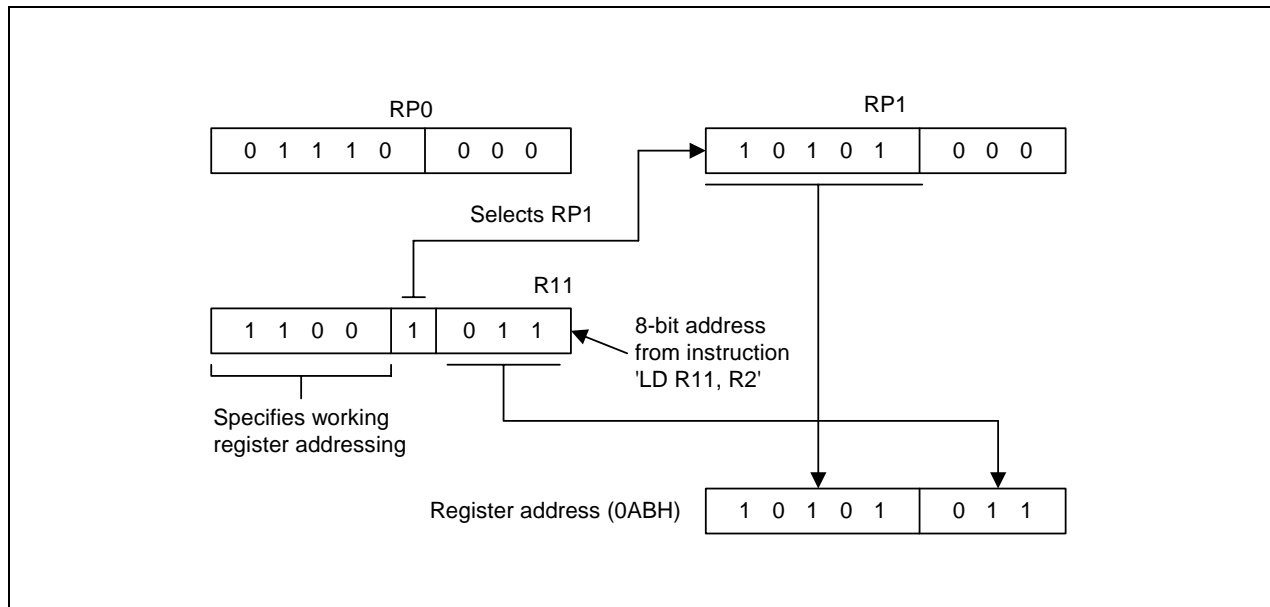

Figure 2-15. 8-Bit Working Register Addressing Example
Return addresses for procedure calls, interrupts and data are stored on the stack. The contents of the PC are saved to stack by a CALL instruction and restored by the RET instruction. When an interrupt occurs, the contents of the PC and the FLAGS registers are pushed to the stack. The IRET instruction then pops these values back to their original locations. The stack address value is always decreased by one before a push operation and increased by one after a pop operation. The stack pointer (SP) always points to the stack frame stored on the top of the stack, as shown in Figure 2-15.